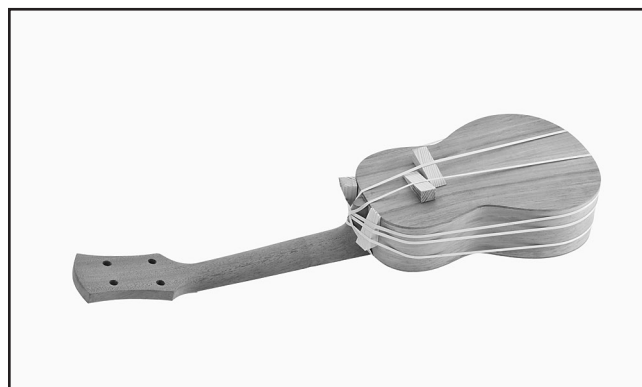

Figure 25. Gluing the neck to the body using rubber bands and wedges to secure it in place.
5. Glue the neck to the body. Use band clamps or rubber bands to ensure a tight fit, as shown in **Figure 25**, and let the glue dry for at least 24 hours before attaching the fingerboard.